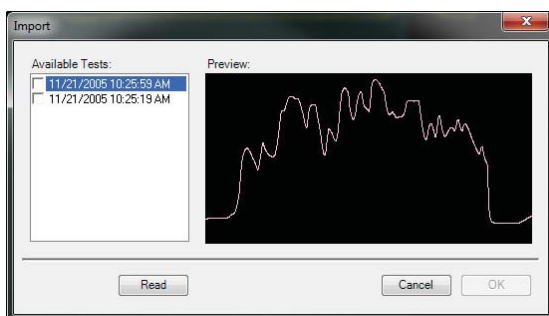

Figure 55: Open Import Window and Click "Read" to Display Stored Files
- Steps 2 - 4 will open the Import window. Click the Read button to display all available files for download from PGA-710B by Date and Time recorded. The highlighted file will be previewed in the adjoining window as in Figure 55.